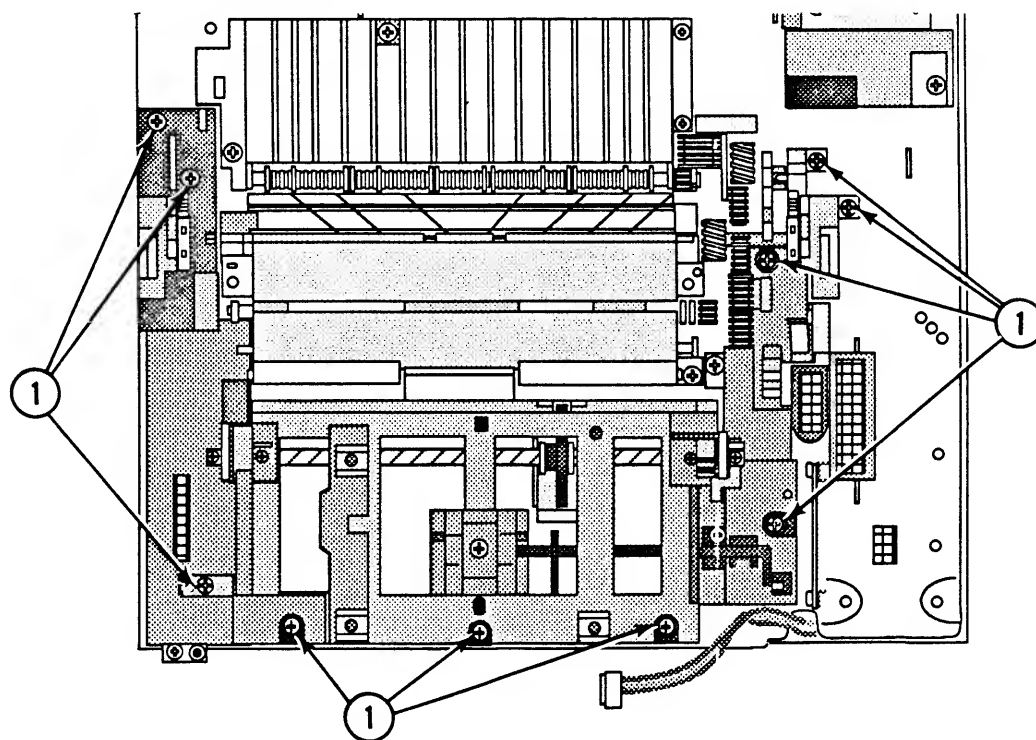

FIGURE 51
2. Remove the ten Phillips screws (Figure 51, #1) that secure the cassette holder to the chassis. Remove the cassette holder.